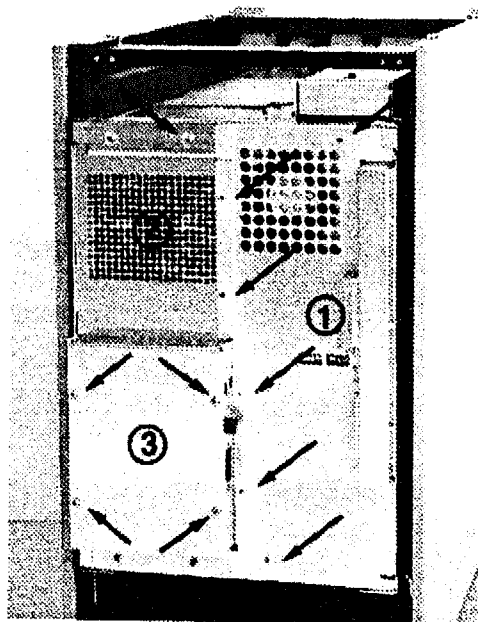

Figure 8-10. Rear Electronics Access Panels (earlier units)
Refer to Figure 8-10.
3. Remove the long electronics access panel next to the Autochanger Controller PCA (Figure 8-10 (1)). On later units, the three electronic access panels are one piece.
3. Remove the long electronics access panel next to the Autochanger Controller PCA. See Figure 8-10 (1). On later models, the three electronic access panels are one piece.
2. Remove the long, vertical electronics access panel along the left side of the Autochanger Controller PCA. See Figure 8-10 (1).